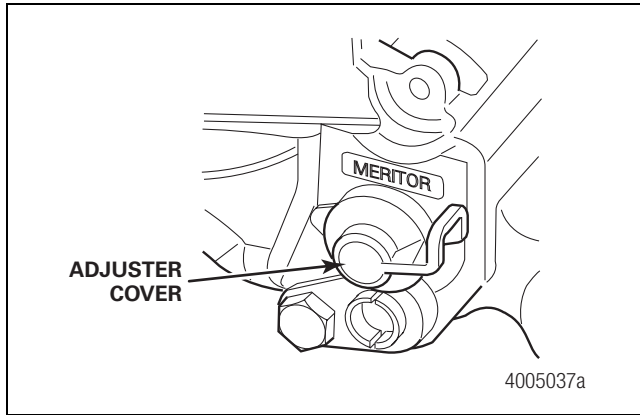

Figure 5.7
1. Remove the adjuster cover from the caliper assembly. Figure 5.7.